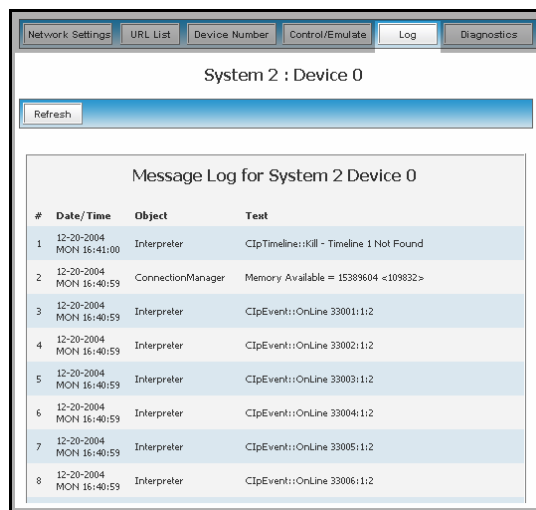

FIG. 63 Log dialog
- Click the **Log** button (FIG. 63). This dialog allows the user to view the log for the selected device (*currently only the Master supports this feature*).